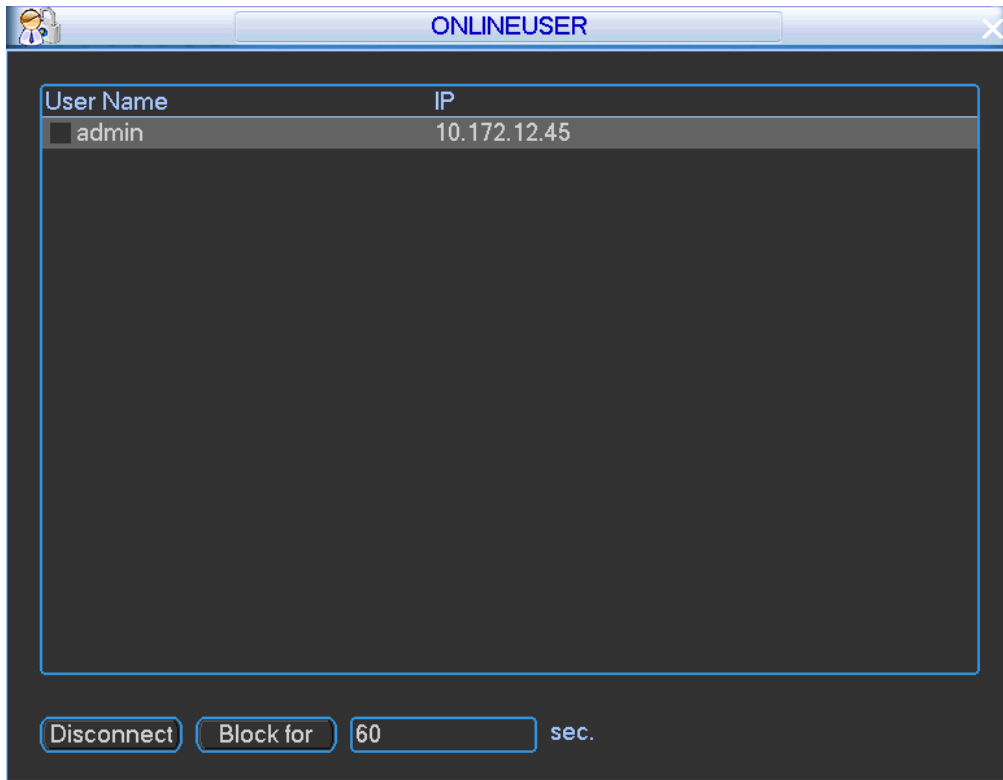

Figure 4-96
Step 1 From main menu->Info->System->Online user, enter online user interface. See Figure 4-96.